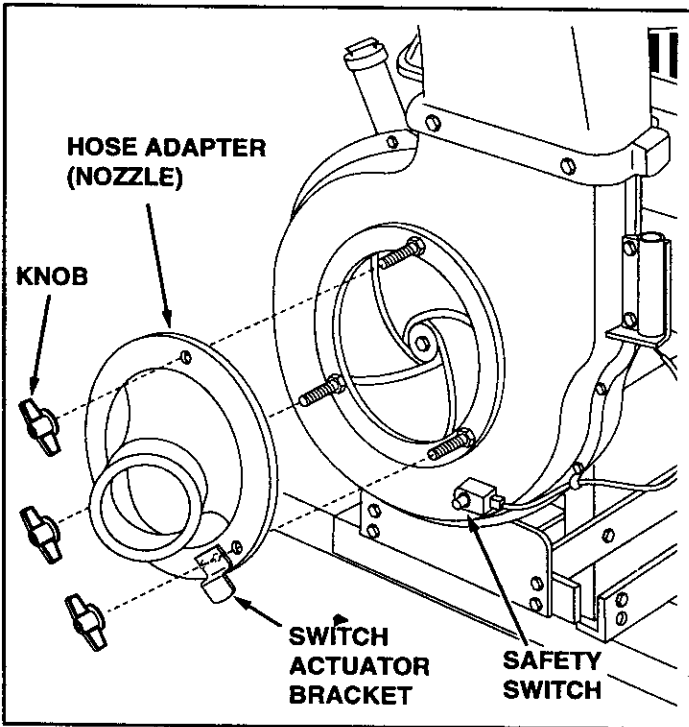

FIGURE 24
- Assemble the hose adapter (nozzle) to the front of the impeller housing, securing it with the three knobs. Make sure that the switch actuator bracket depresses the switch on the housing. See figure 24.